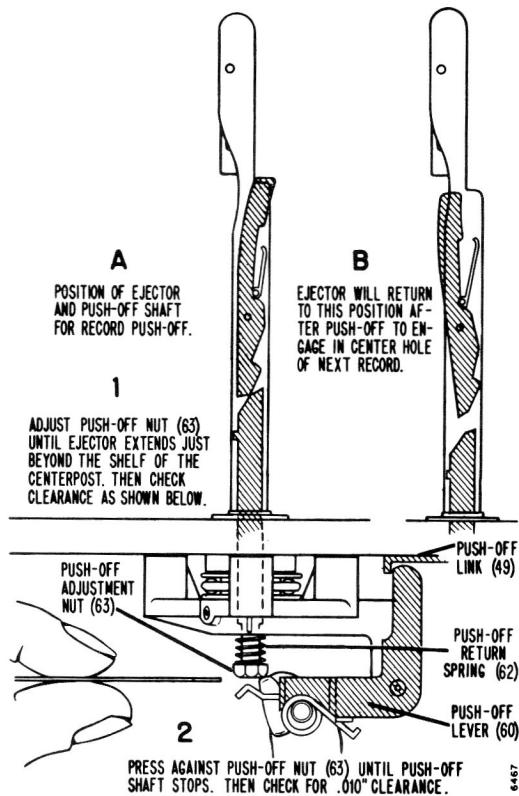

Figure 7. Adjusting for Correct Push-off.
When the tone arm is clear of the turntable, the roller on the drive eccentric (91) engages the push-off link (49). The push-off link moves the push-off lever (60), which in turn engages the safety spring (61) with the push-off adjustment nut (63) on the end of the push-off shaft in the centerpost. As the push-off link (49) is moved by the drive eccentric, the push-off lever (60) causes the safety spring (61) to move the push-off shaft up into the centerpost. The push-off shaft engages the ejector and pushes it up and out at the shelf of the centerpost. See figure 7.
Ejector travel is adjusted by the hexagonal adjustment nut (63). With proper push-off adjustment, the ejector should extend just slightly beyond the edge of the shelf on the centerpost. See figure 7.
2. Continue rotating turntable slowly until the roller on the drive eccentric (91) engages the push-off link (49). Rotate the turntable until the roller has moved the link its full distance. The push-off lever (60) is now extended its maximum travel.
of the shelf. See figure 7. If the ejector does not extend beyond the edge of the shelf, turn the push-off adjustment nut (63) counterclockwise to increase the amount of push-off. Use a 1/4" open-end wrench for this adjustment.
4. Press the hexagonal adjustment nut (63) to check for additional travel before the push-off shaft stops. The ejector should move out past the shelf slightly more than necessary for push-off before it stops.
5. Slide a 10 thousandths of an inch (.010) feeler gauge between the flat surface of the adjustment nut (63) and the safety spring (61) to check, and adjust until gauge passes freely.
2. Check for weak push-off return spring (62).
3. Check the push-off adjustment. See figure 7.
2. Be sure push-off adjustment has proper clearance. See figure 7.